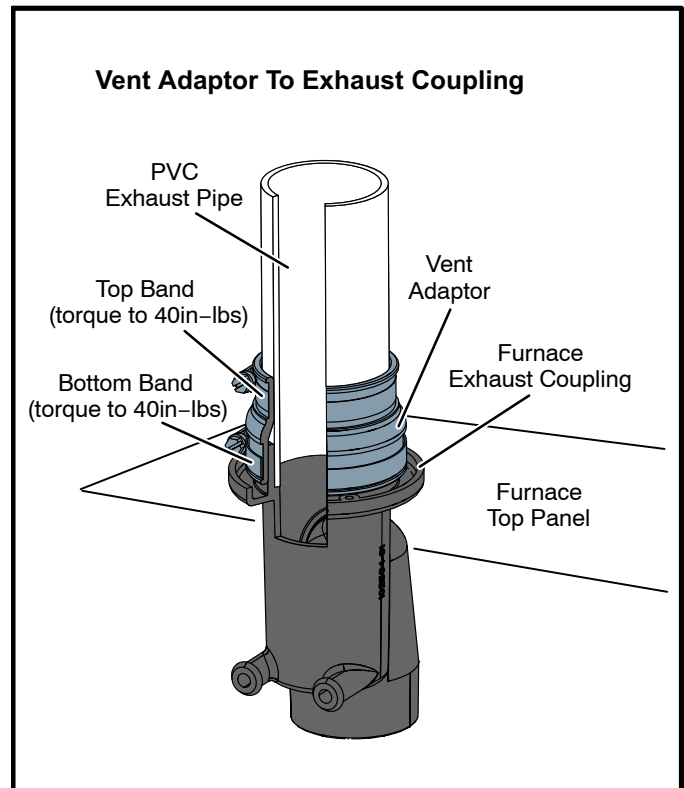

FIGURE 19
**NOTE** - Exhaust coupling must be installed with provided appliance adapter. See figure 19.
### Exhaust Piping (Figures 19, 20, 22 and 23)
- 4 - Tighten both top and bottom bands to 40 in lbs. See figure 19.